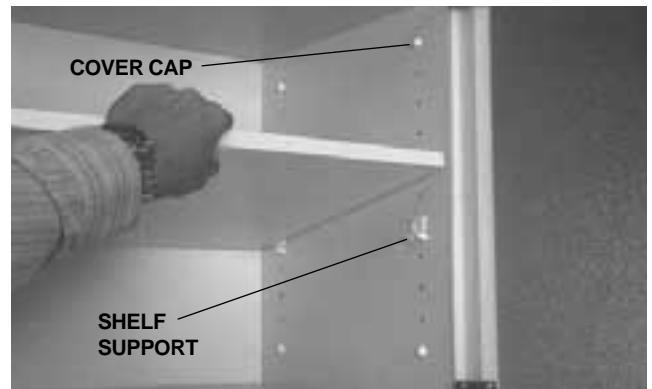

FIGURE 25
- Install the shelf supports, from Kit No. 55-2078-00, in the appropriate holes (see Figure 25).